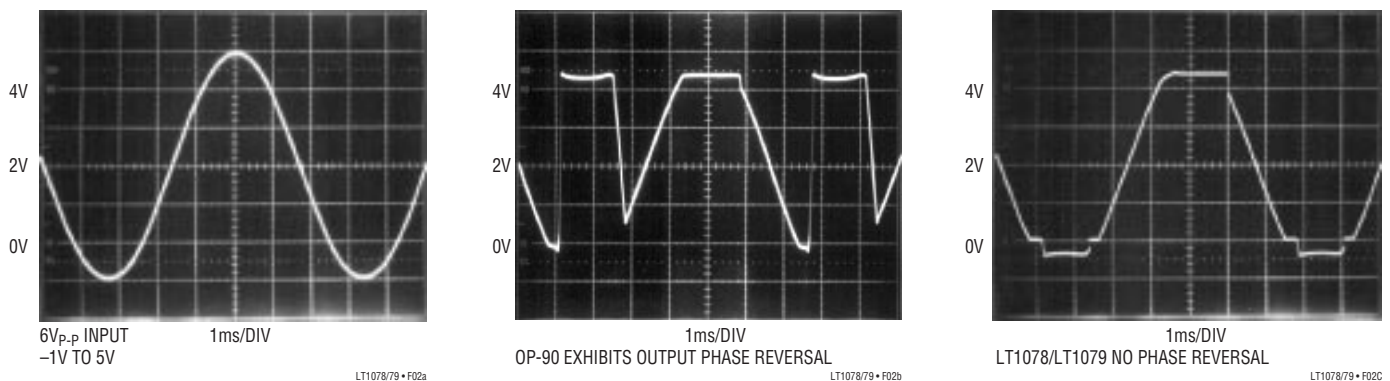

Figure 2. Voltage Follower with Input Exceeding the Negative Common Mode Range ($V_S = 5V, 0V$)
2. When the input is more than 400mV below ground (at 25°C), the input stage saturates and phase reversal occurs at the output. This can cause lockup in servo systems. Due to a unique phase reversal protection circuitry, the LT1078/LT1079 output does not reverse, as illustrated in Figure 2, even when the inputs are at $-1V$.